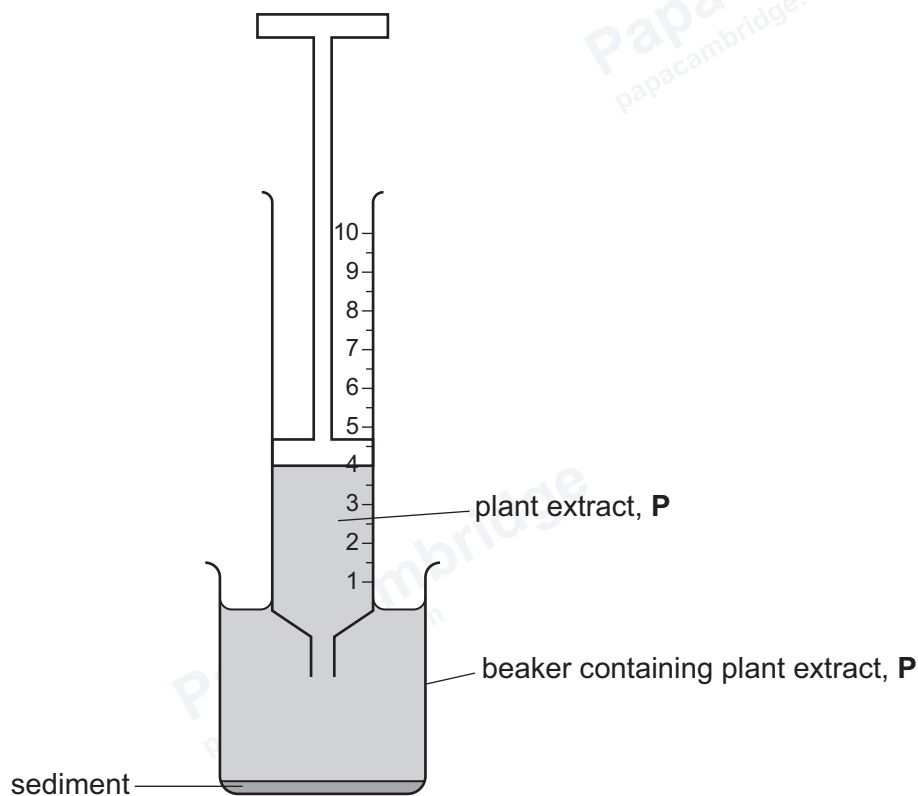

Figure 1.2
step 6 Hold the syringe so that the nozzle is just below the surface of the plant extract, **P**, as shown in Figure 1.2.
step 7 Pull the plunger out to the 4 cm^3 mark so that **P** enters the syringe, as shown in Figure 1.2.